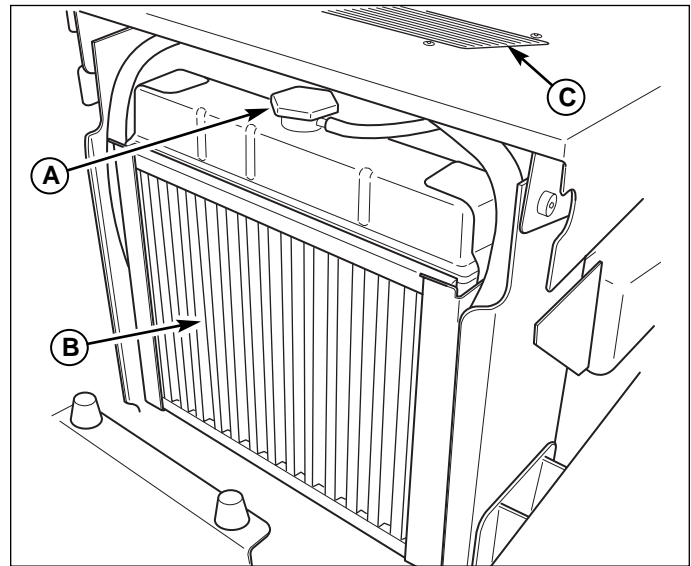

Figure 16. Radiator & Oil Cooler
1. Remove the radiator pressure cap (A, Figure 16) to check the fluid level.